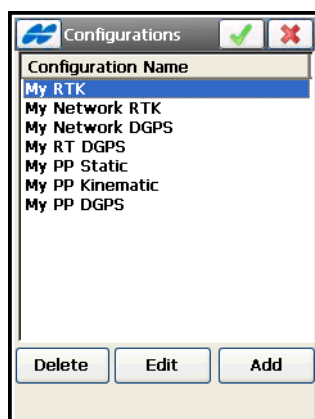

Figure 3-3. GPS+ Configurations
To configure a GPS+ survey, press the **List** [...] button in the *GPS+ Config* field of the *Survey Style* screen (Figure 3-3).
The *Configurations* screen (Figure 3-3) displays a list of pre-defined configurations. Either edit an existing configuration or create a new configuration. A new configuration is performed with the help of a Wizard.
- *Name* – the name of the configuration that is displayed in the *Configurations* screen (Figure 3-3 on page 3-4).